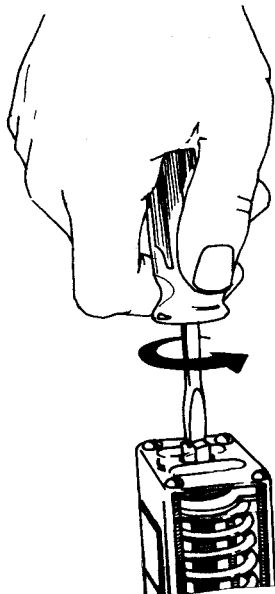

FIGURE 6. ADJUSTMENT SCREW
3. Problems in the gear motor electrical circuit. See Figure 6